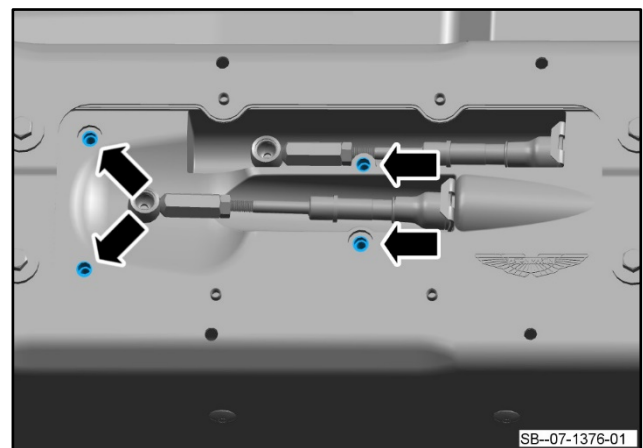

Figure 23
26. Use the extractor tool to remove all four brass inserts from the base plate (refer to Figure 23).